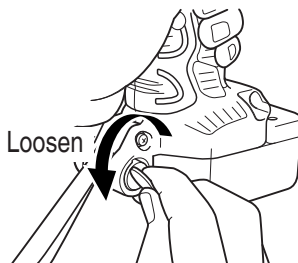

**Fig. 10**
- (1) Operating the hook
- (a) Pull out the hook toward you in the direction of arrow (A) and turn in the direction of arrow (B) (**Fig. 10**).